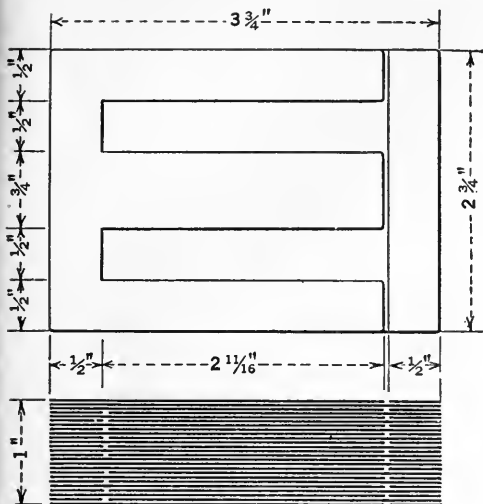
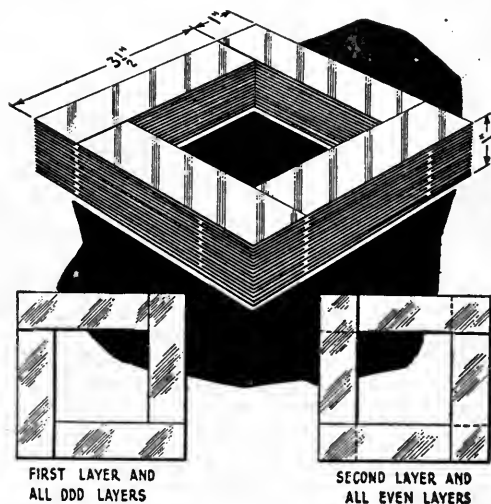

FIG. 5
FIG. 6
**T**HE transformer and choke coils are cut from silicon steel sheets of from ten to seventeen mils (thousandths of an inch) in thickness. Fig. 5 gives the shape and dimensions of the toy transformer core recommended in the previous article. As it is almost impossible to cut such shape laminations by hand, the type of core illustrated in Fig. 6 may be used. The sectional area of the magnetic circuit of the manufactured core (Fig. 5) is .75 square inches, but if a home-cut core of the type illustrated in Fig. 6 is used, the sectional area had better be one square inch. Each lamination should be given a thin coat of shellac and allowed to dry before assembling.